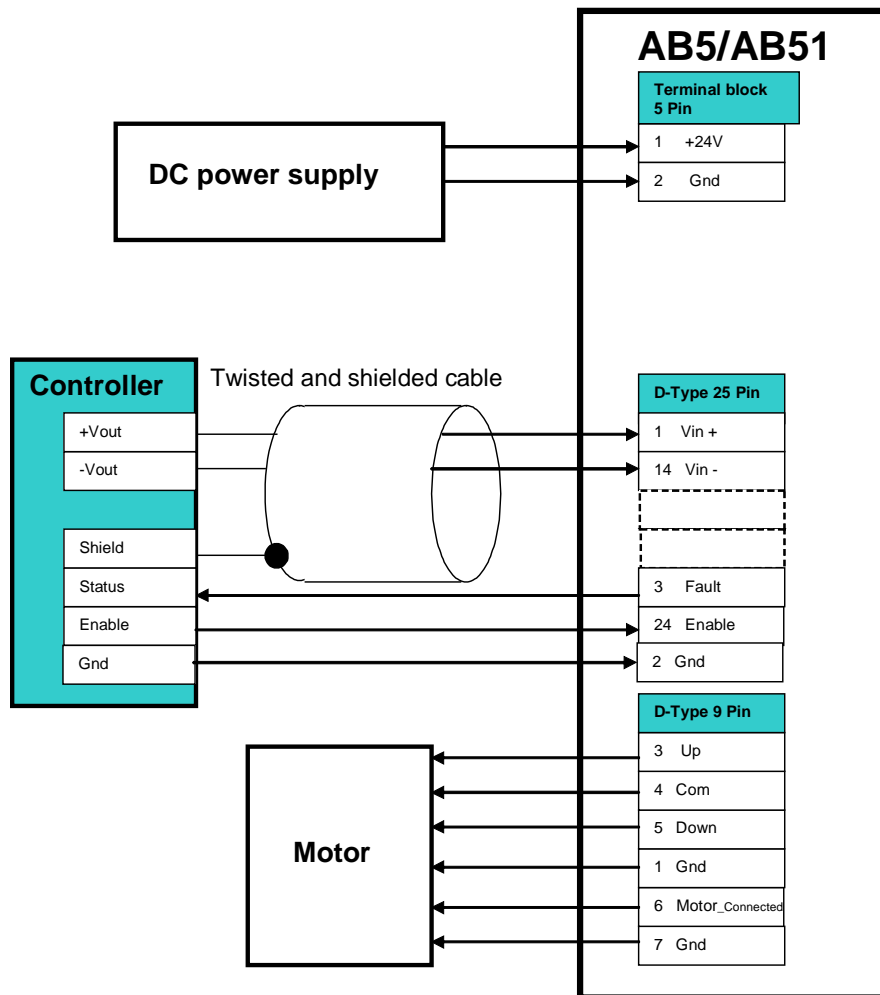
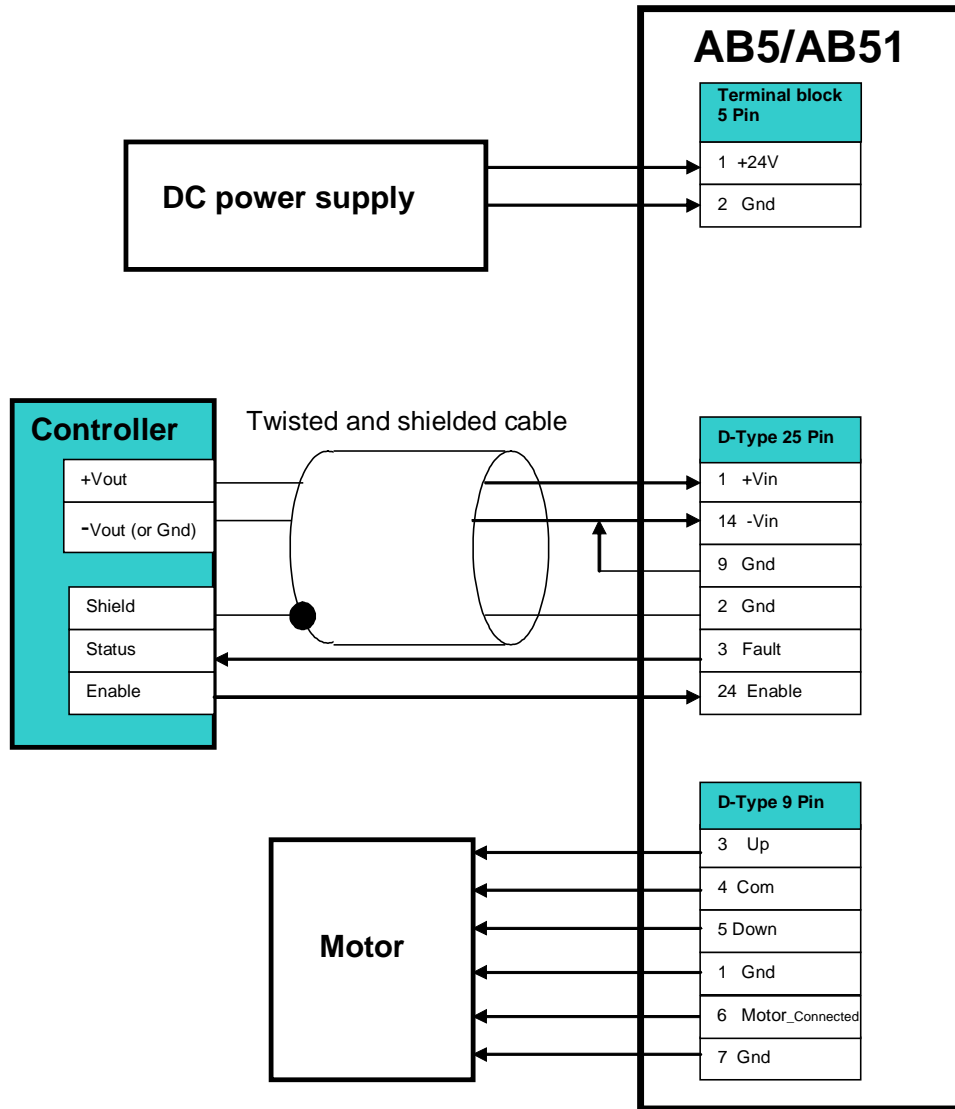

Figure 3: Differential Analog Input Connection
Figure 4: Single-ended (non-differential) Analog Input Connection.
For connecting the driver to the system, refer to Figure 3: Differential Analog Input Connection or Figure 4: Single-ended (non-differential) Analog Input Connection.
- Differential connection (see Figure 3)
- Single-Ended (Non-differential) Connection (see Figure 4)